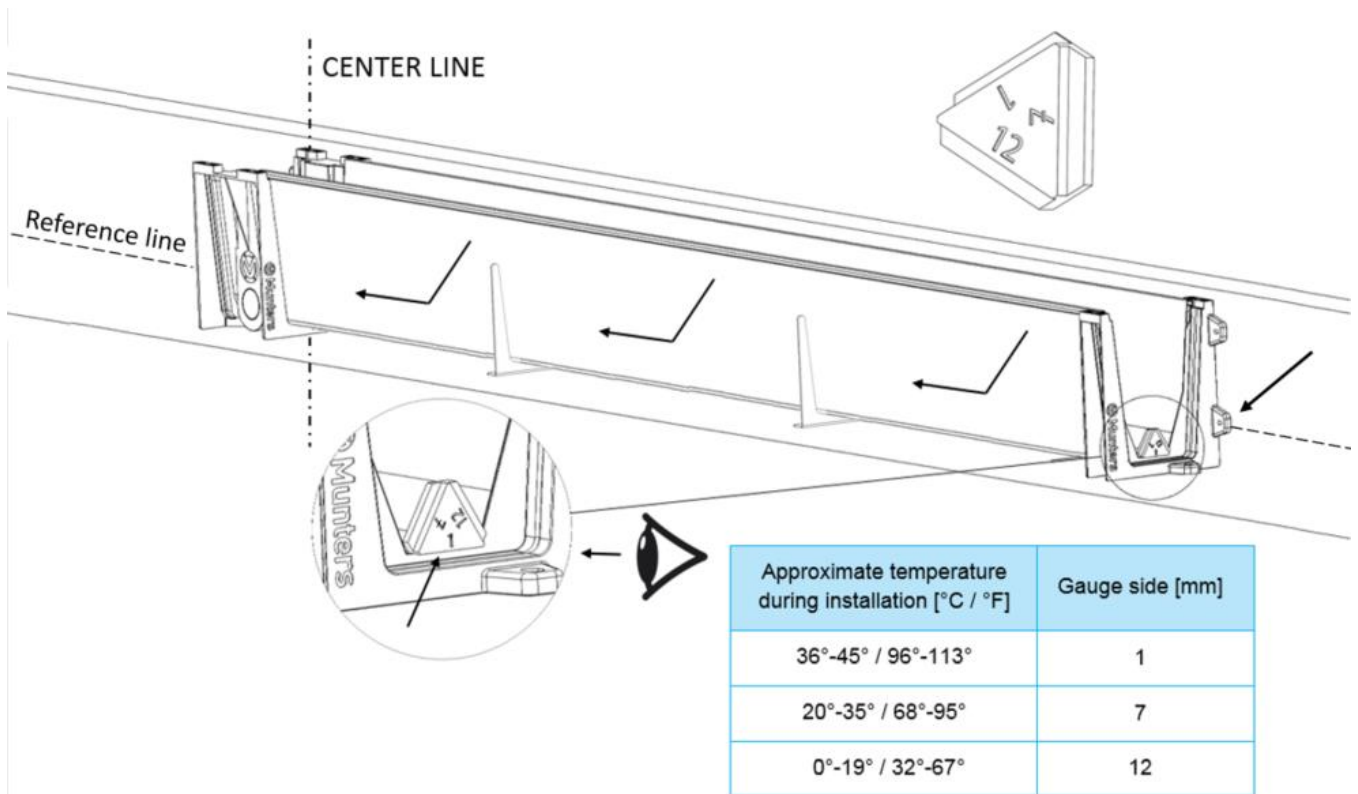

Figure 7
Position the External Joint Bracket [ref. 4], using as reference the Short Water Bottom Gutter 2850mm [ref. 2] and the Gauge for Installation [ref. 3 / Assembling Tools]. See Figure 7.